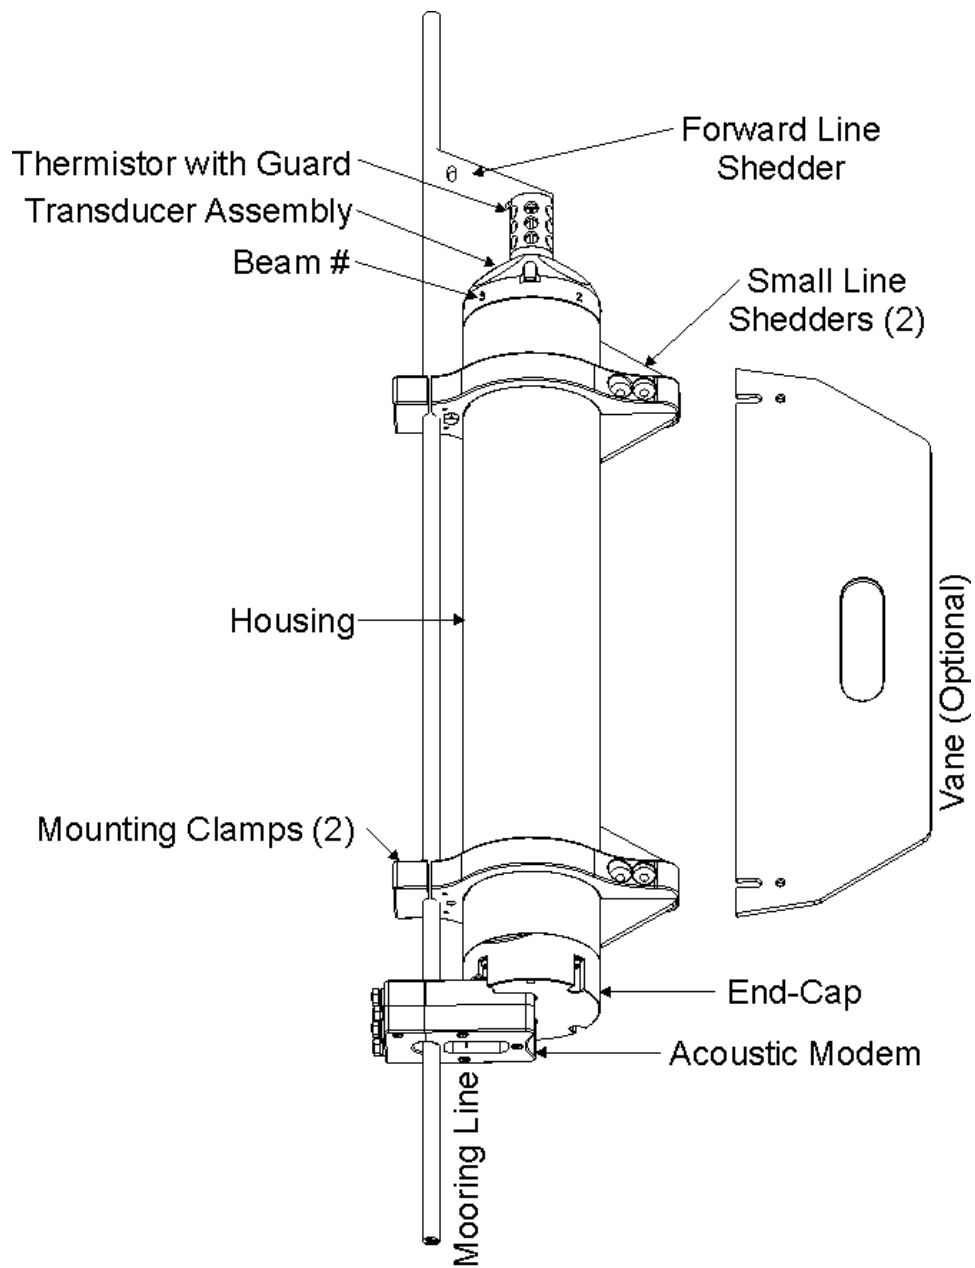

Figure 1. DVS Overview
- An optional vane can be attached opposite to the mooring line to help reduce instrument vibration due to mooring line strumming (see Figure 1).